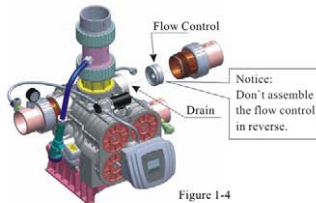

Figure 1-4
- c. Use the white manual handle as figure 1-4 shows to open the drain connector, take out the drain line flow control, change it to the suitable one. (Please refer the hole of P28)